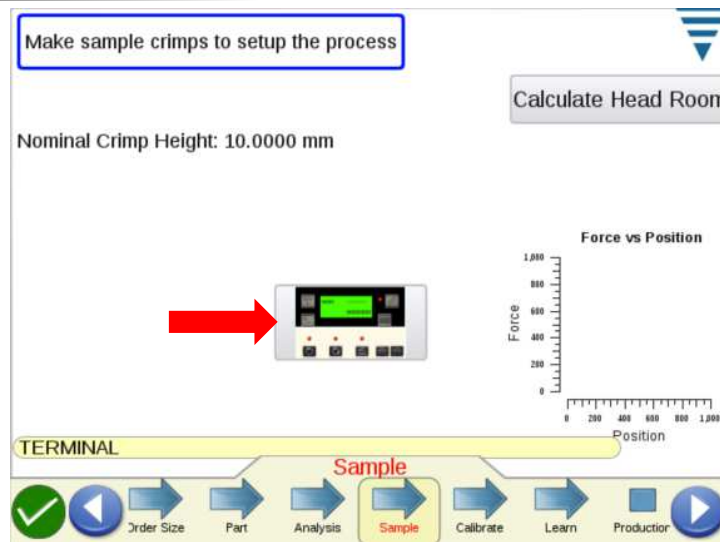

Figure 11
- a. To view the “virtual keypad”, click the “virtual keypad” button on the appropriate screen corresponding to whether you have selected to use or not use CQM (see Figure 11).